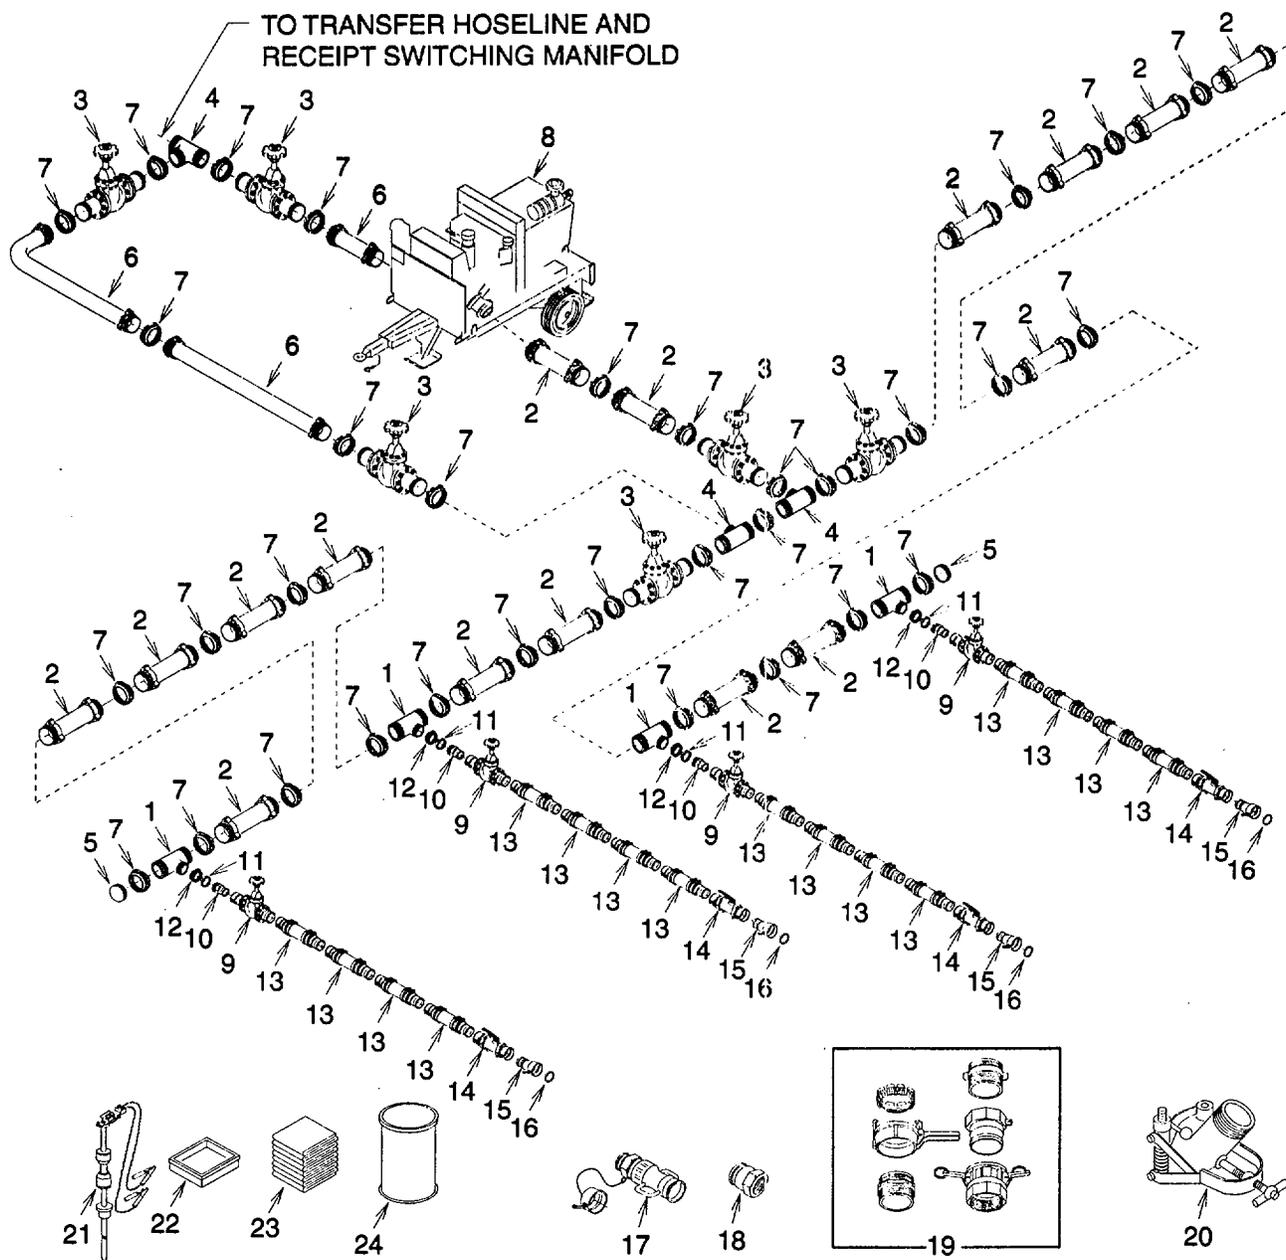

Figure 4-11. Tanker-Truck Receipt Manifold
- c. Align mating surfaces of 6 x 6 x 4 tees (1) (figure 4-11), 6 inch x 12 foot hose assemblies (2), 6 inch gate valves (3), 6 x 6 x 6 tees (4), 6 inch caps (5), and 6 inch x 50 foot hose assemblies (6). Join these items using coupling clamps (7).